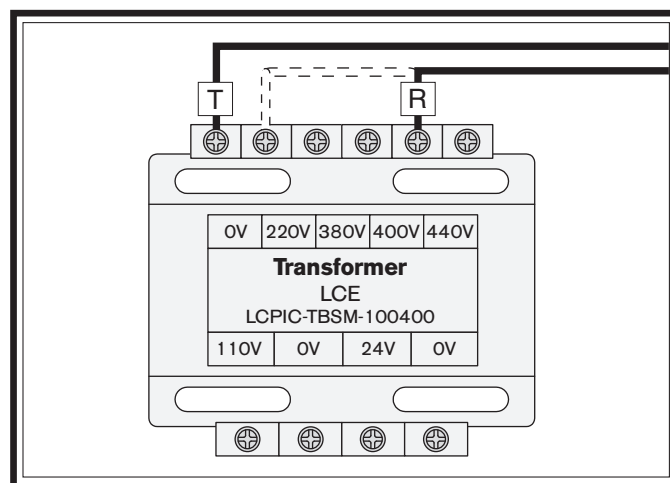

Figure 9. Moving "R" wire to 440V terminal.
2. Open electrical cabinet and locate transformer (see **Figure 9**).
3. Move "R" wire from 220V terminal to 440V terminal (see **Figure 9**).